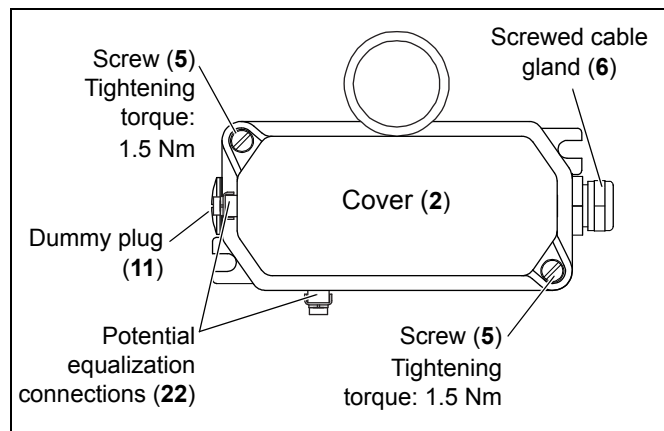

Fig. 5-13: Commissioning the belt misalignment switch
2. Loosen the potential equalization connections (22) on the cover (2) and the enclosure (1) (see *fig. 5-13*).
3. Open the cover (2) by loosening the two screws (5).
4. Remove the screwed cable gland (6).
5. Disconnect all electrical connections and pull the cables out of the screwed cable gland (6).